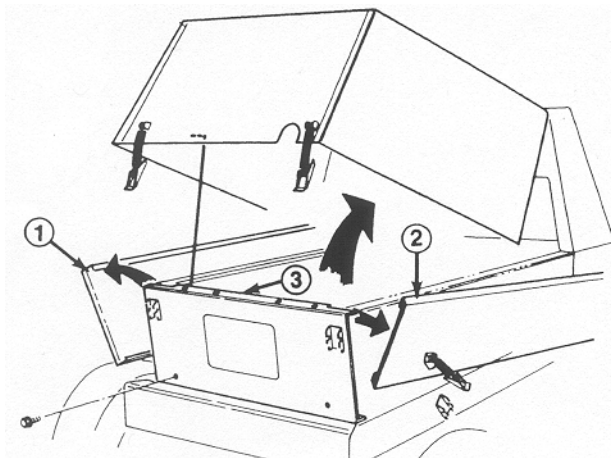

Figure 1
3. Remove the (6) flangehead screws securing the rear panel to the frame (Fig. 1). Set the rear panel aside.